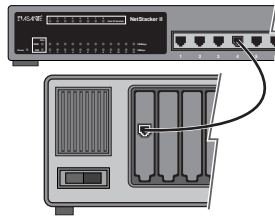

Figure 2-7 Connecting cable to a NIC
- 2 Connect one end of the UTP cable to the RJ-45 port of the Ethernet card in each computer as shown in Figure 2-7.
- 3 Plug the other end of the cable into one of the RJ-45 ports on the hub, as shown in Figure 2-7.